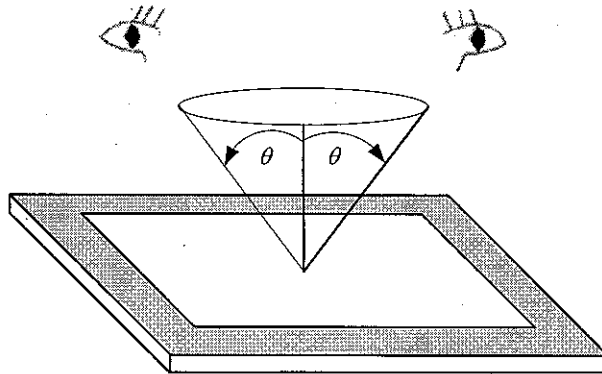

Fig. 11.1
- The viewing zone is defined with angle  $\theta$  shown in Fig. 11-1. The inspection should be performed within  $45^\circ$  when display is shut down. The inspection should be performed within  $5^\circ$  when display is power on.